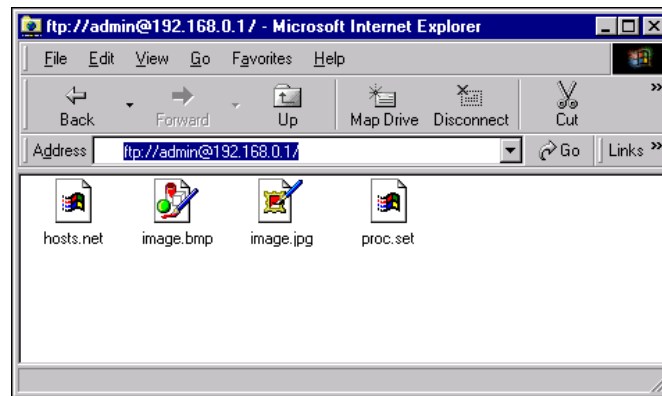

Figure B-0-2: Installed 1700 files
- 3 If the FTP login to the 1700 is successful, all of the files currently installed in In-Sight flash memory are displayed in the browser window, as shown in Figure B-0-2.